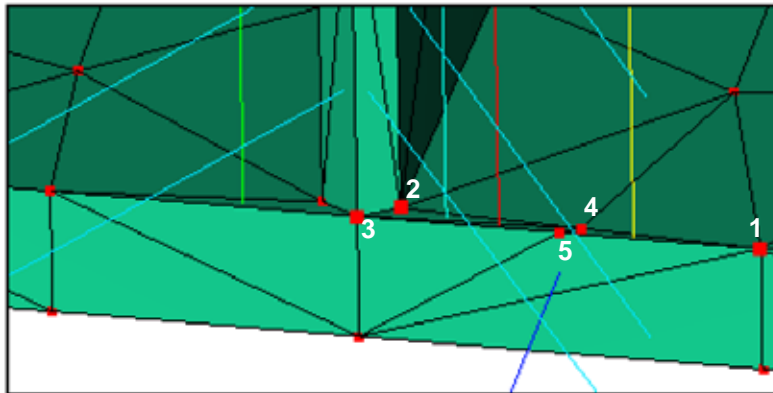

Figure 156: Nodes inserted on the plate edge
- 1.1. Select the node labeled 1 in Figure 156.
- 1.2. Select the node labeled 2 in Figure 156.
- This forms the node labeled 4 in Figure 156.
2. Repeat the insert creation to create node 5 in Figure 156.
- 1.1. Select the node labeled 5 in Figure 156.
- 1.2. Select the node labeled 4 in Figure 156.